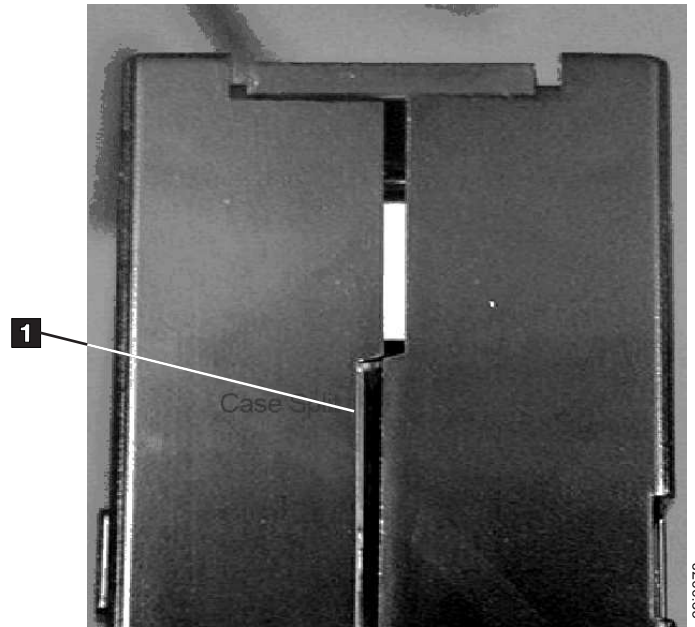
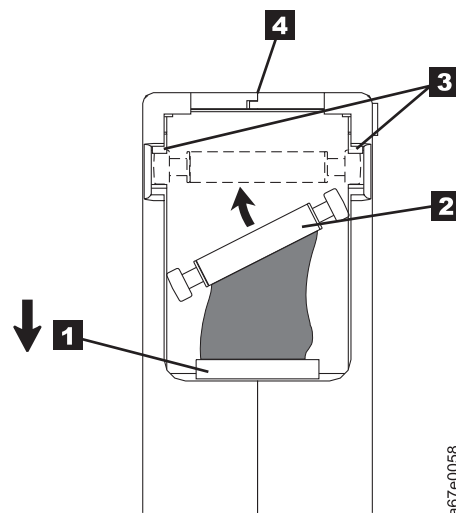

Figure 142. Checking for gaps in the seams of a cartridge
Figure 144. Placing the dislodged leader pin into the correct position. The cartridge door is open to show the leader pin.
- Inspect the rear of the cartridge (the part that loads first into the tape load compartment) and ensure that there are no gaps in the seam of the cartridge case (see **1** in Figure 142 on page 173 and **4** in Figure 144 on page 175). If there are gaps in the seam (see Figure 142 on page 173), the leader pin might be dislodged. Go to "Repositioning or reattaching a leader pin" on page 174.
Split cartridge case. See Figure 142.
1. Slide open the cartridge door (**1** in Figure 144) and locate the leader pin **2** (you might need to shake the cartridge gently to roll the pin toward the door).